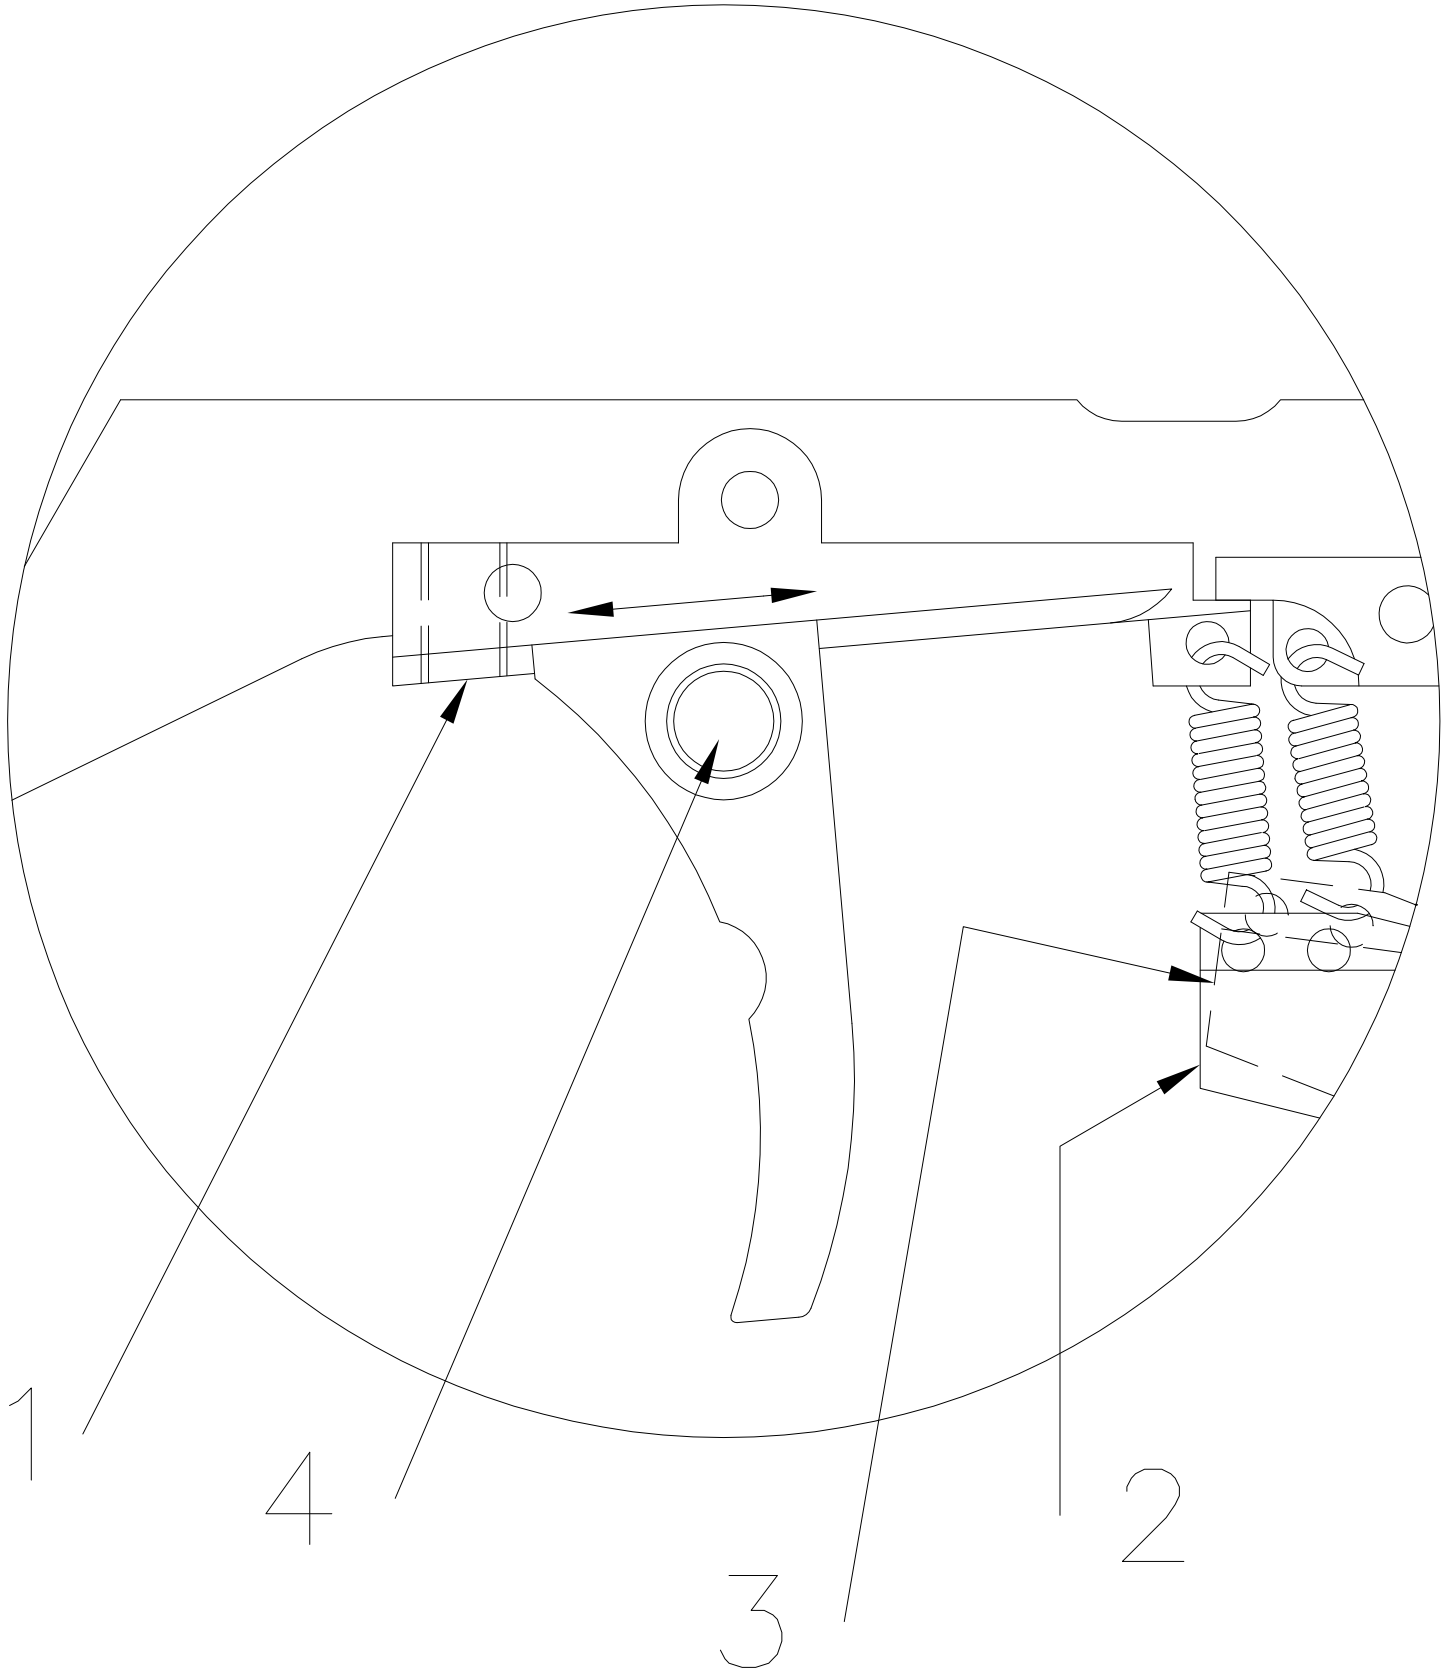

Fig. 4
3. Sighting adjustment (*Fig. 4*)